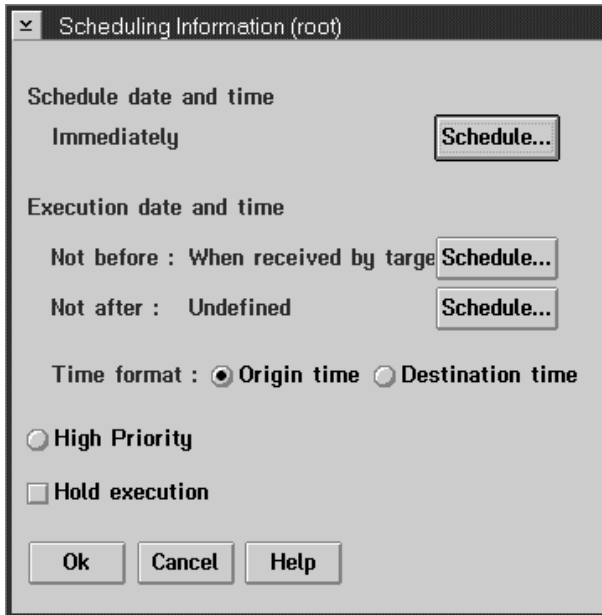

Figure 71. Scheduling information window
- 7 To schedule the installation, click on the **Scheduling...** push button. The Scheduling Information window is displayed, as shown in Figure 71 on page 164.